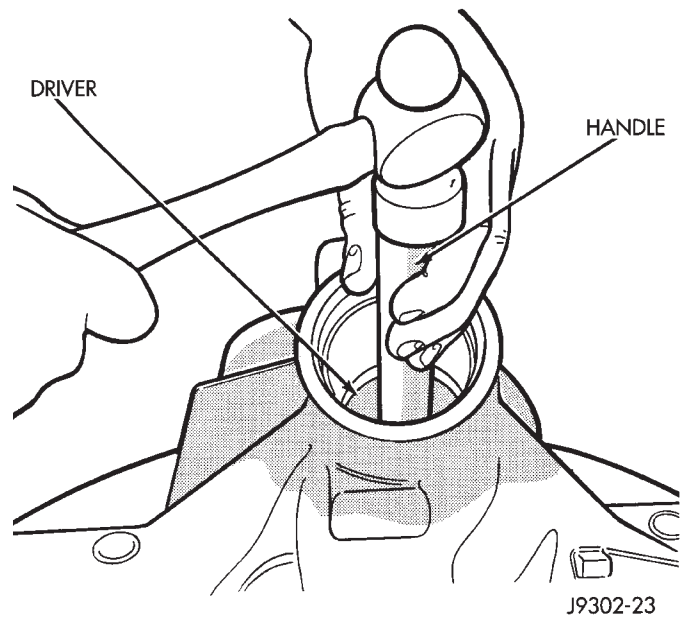

Fig. 19 Rear Bearing Cup Removal
(6) Remove the rear bearing cup from housing (Fig. 19). Use Remover D-148 and Handle C-4171.